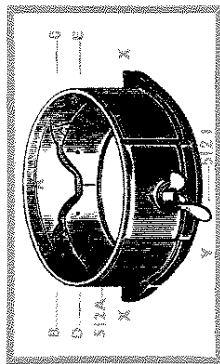

Fig. 5
The cam shell (Fig. 5) contains the steel cams, A, B, C, which raise and lower the cylinder or plain needles; it rests upon the base and is kept in position by the cylinder round which it revolves. The stitch cam A is adjustable by means of the wing nut (512E) on the outside of the cam shell. Between this wing nut and the shell is a pointer (512E) which indicates upon the index plate (512L) the position of the stitch cam (A). The lowest point (6) makes the longest stitch or loosest tension, and the highest point (1) makes the shortest stitch or highest tension. The large wing nut (512I) is for securing the ribber arm (513A) to the cam shell. The two lugs (X) on opposite sides are for driving the cam shell; the one on the left drives forward and the one on the right drives backward. Round the inside of the cam shell is a ledge on which the feet of the needles rest, when not being raised or lowered by the cams A, B or C. Cams B and C raise the needle, cam A depresses the needle and the cover plates (D and E) of cams B and C raise the needles on to the ledge again after cam A has depressed them.